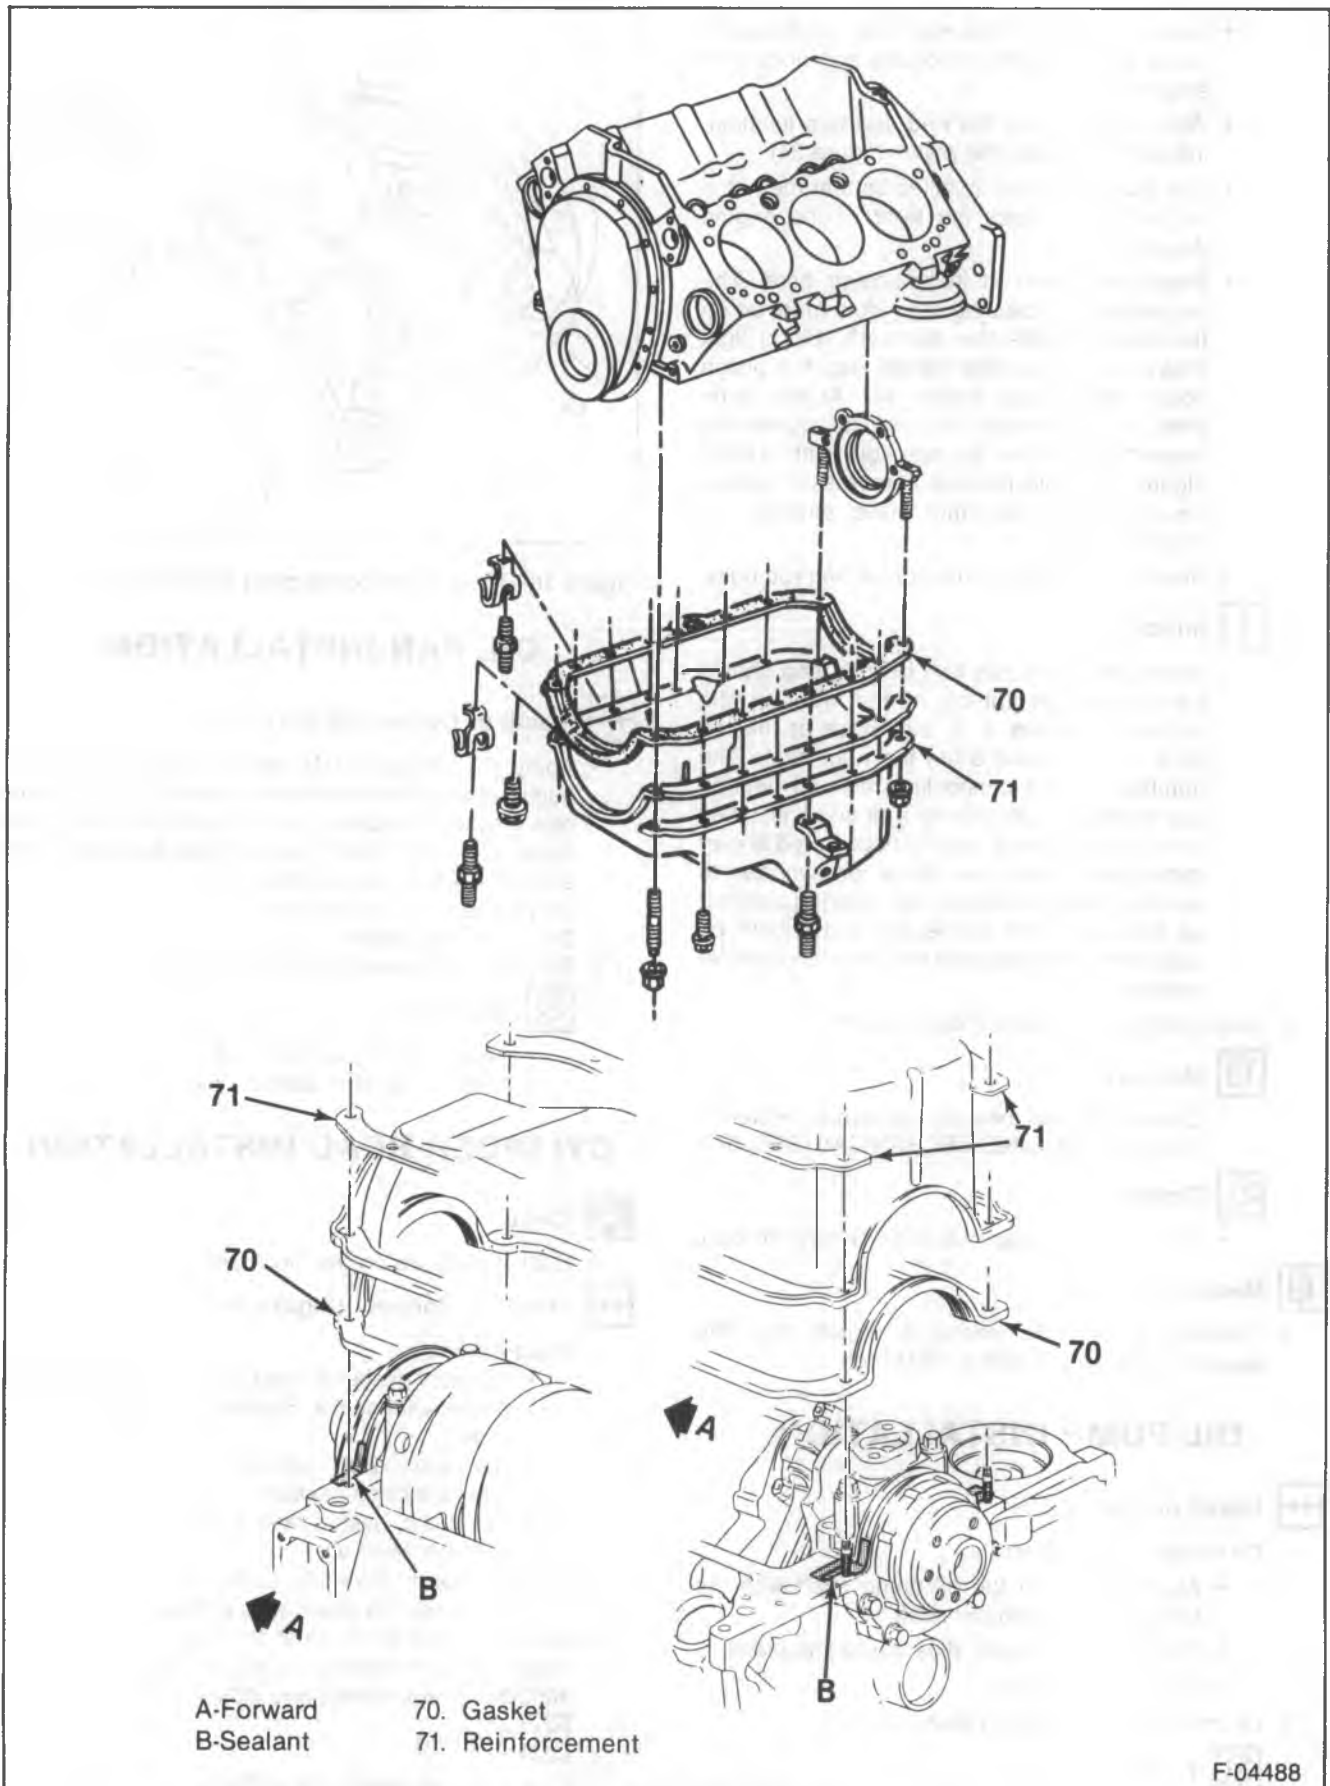

Figure 37—Oil Pan Installation
Install or Connect (Figure 37)
- Apply PST sealant (GM part number 1052080 or equivalent) to the front cover to block joint and to the rear crankshaft retainer seal to block joint. Apply the sealant about 25 mm (1-inch) in both directions from each of the four corners (figure 37).